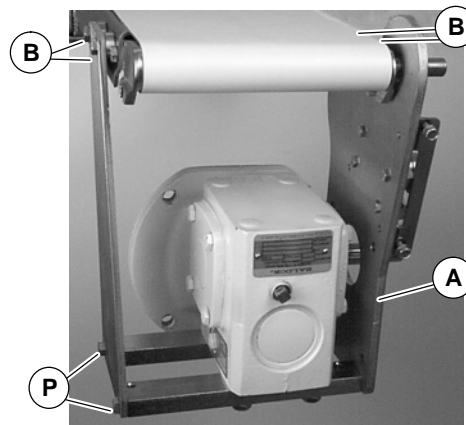

Figure 4
4a. For 4" (102mm) and wider conveyors, loosen (but do not remove) screws (P of Figure 4). Attach bottom mount assembly (A) to conveyor with screws (B). Tighten screws (B) and (P) to 92 in-lb (10.4 Nm).